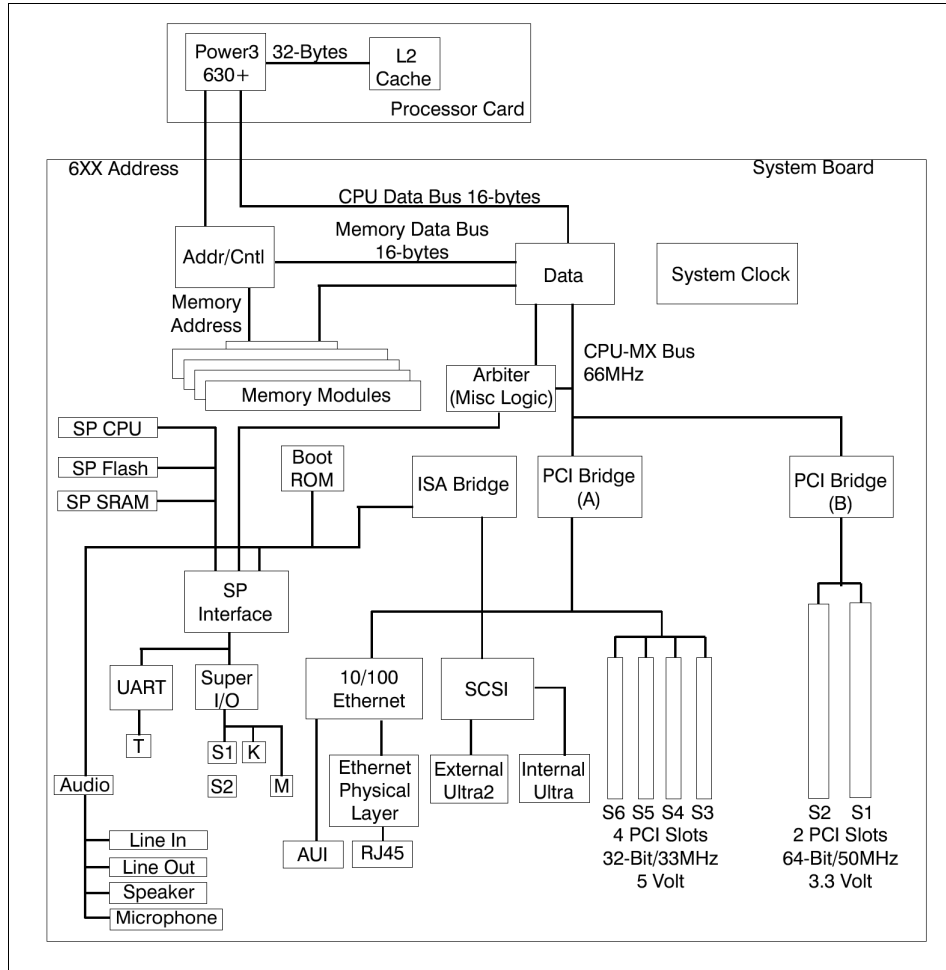

Figure 3-35 System logic flow diagram for 44P Model 170
Figure 3-35 on page 127 shows the 7044 Model 170 diagram.
- ▶ Refer to Figure 3-35, and Table 3-28 below for additional configurations for storage devices.